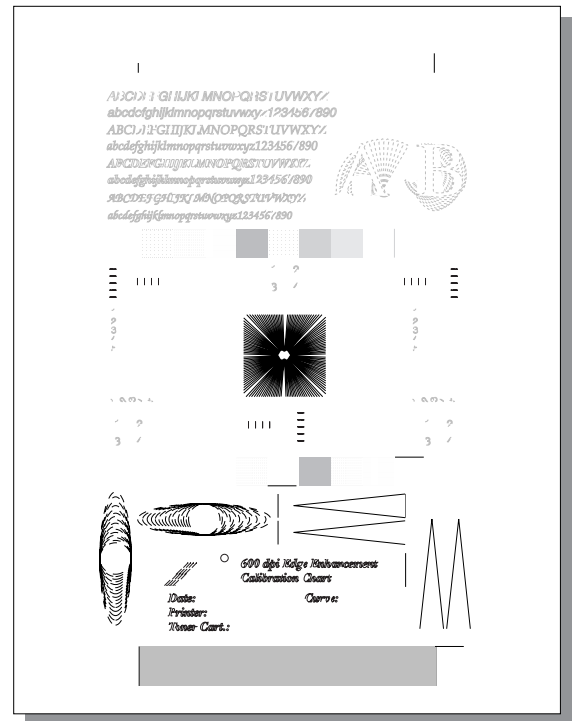

Figure 4-6. Enhancement Areas without 1-Pixel Vertical or 45° Lines Printout
This page indicates that the one (1) pixel vertical and 45° lines are affected by the midpoint values. The printout should look similar to figure 4-6.